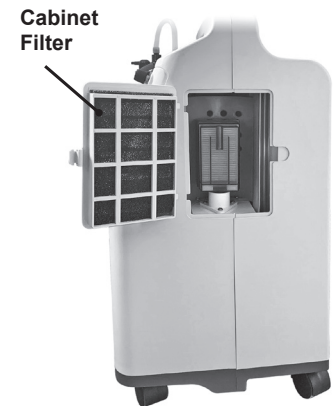

Figure 6
1. **Cabinet Filter** – It is critical to inspect the cabinet filter on a routine basis. Remove the cabinet filters, clean with mild soap or detergent, rinse thoroughly and ensure filters are dry before reinstalling, as shown in *Figure 6*.